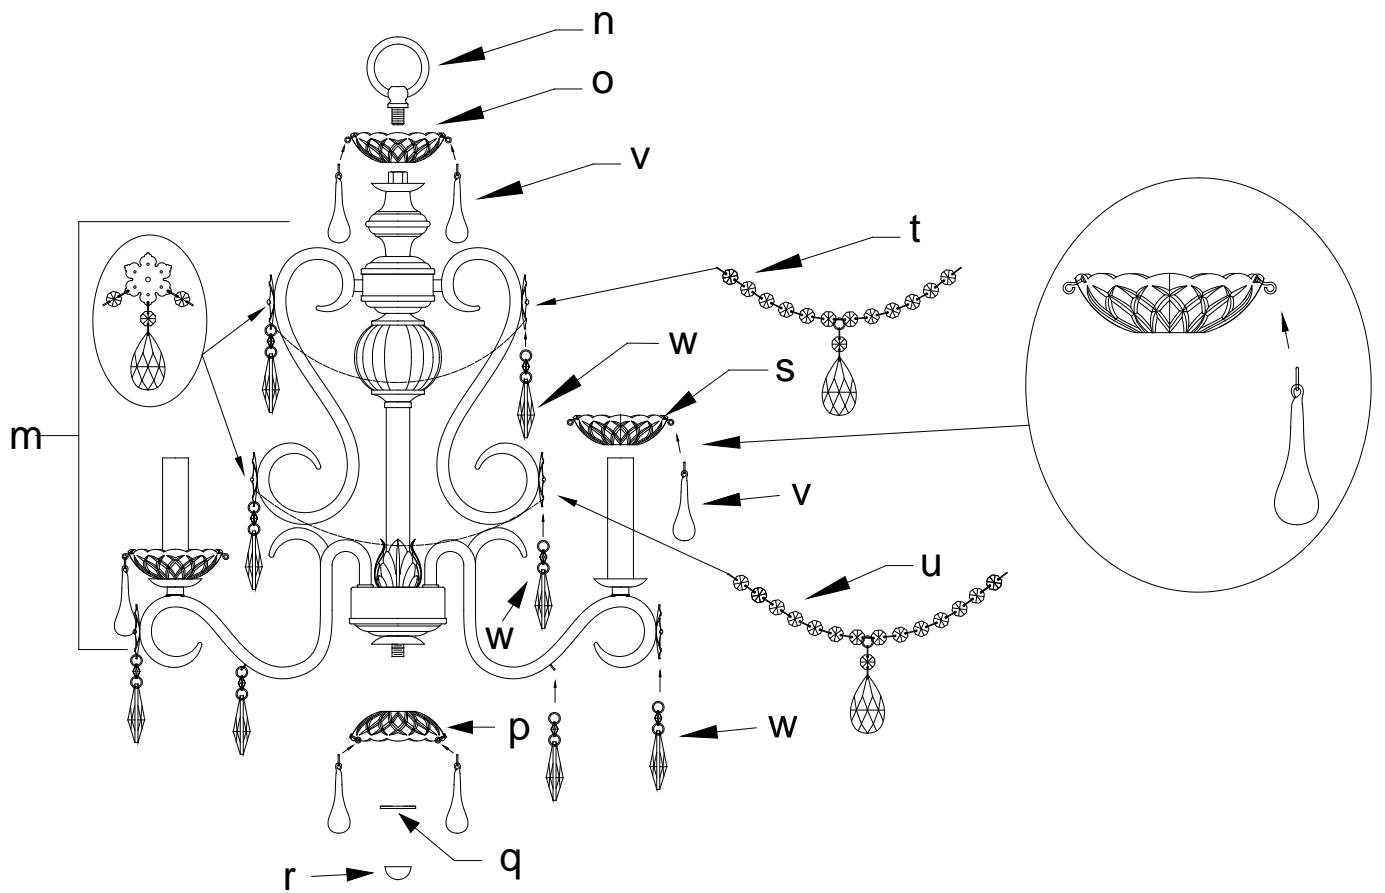

Fig.2
4. Place glass pan (o) over the coupling at top of fixture body (m) and secure fixture loop (n) as shown in Fig.2.
5. Place glass pan (p). rubber washer (q) over the protruding nipple at bottom of fixture body (m) and secure finial (r) as shown in Fig.2.